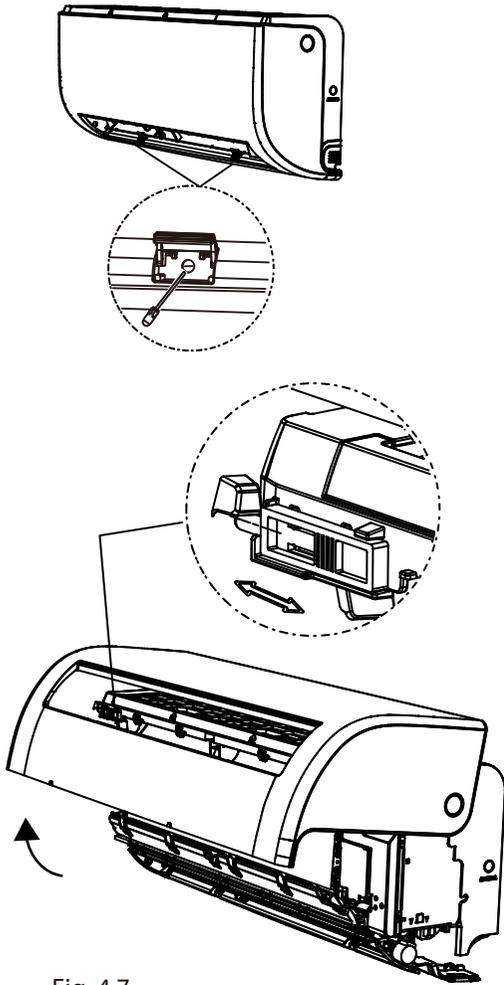

Fig. 4.7
Firstly, unscrew the two screws showed in the picture below, then open the panel, and fix the position of the panel by the latch (see Fig.4.7).
2. Open front panel of the indoor unit by loosen the screws according to Fig.4.7, which provide big space for wiring connection.